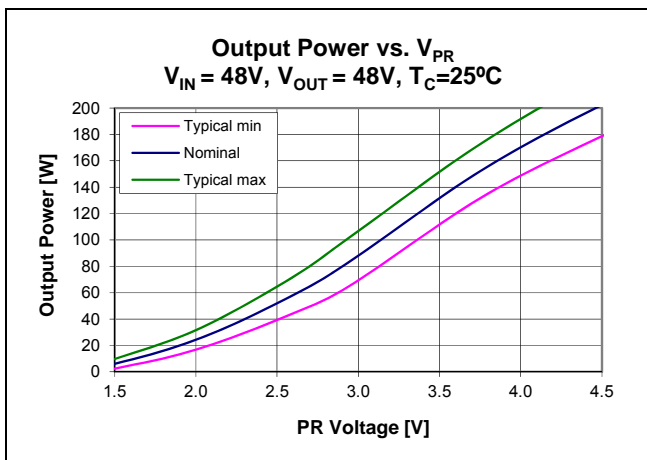

Figure 21 – Output Power vs. V_{PR} ; $V_{IN} = 48V$, $V_{OUT} = 48V$, $T_{CASE} = 25^{\circ}C$
Control node (PR) is the input to the control node which determines the powertrain timing and ultimately the module output power (Figure 21). An internal 0.5mA current sink is always active. The bi-directional buffer between PR and the control node has two states. In normal operation, PR will be above the 0.79V switching threshold, and will drive the control node through the buffer. An internal 7.4V clamp determines the maximum output power that can be requested of the modulator.